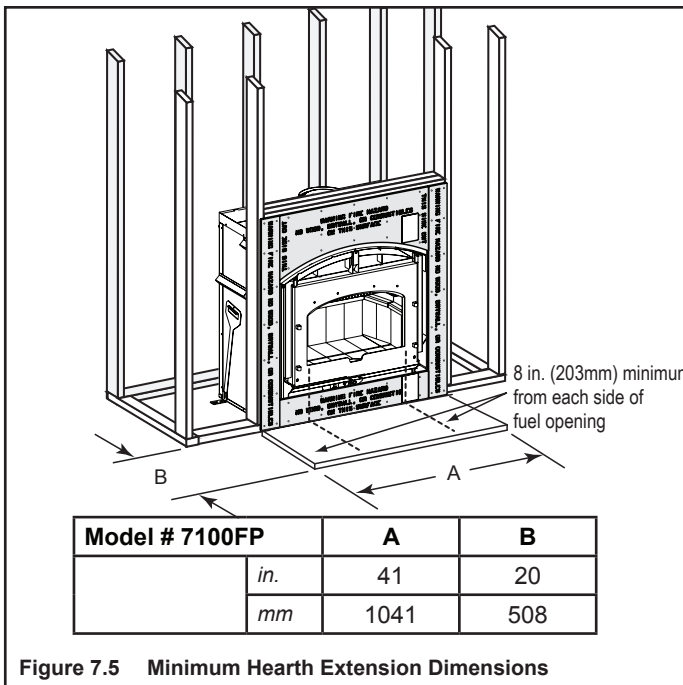

Figure 7.5 Minimum Hearth Extension Dimensions
- Refer to Figure 7.5 for minimum dimensions.
Non-combustible flooring a minimum of 20 in. (508 mm) in front of and 8 in. (203 mm) to either side of the fuel opening is required as shown in Figure 7.5.